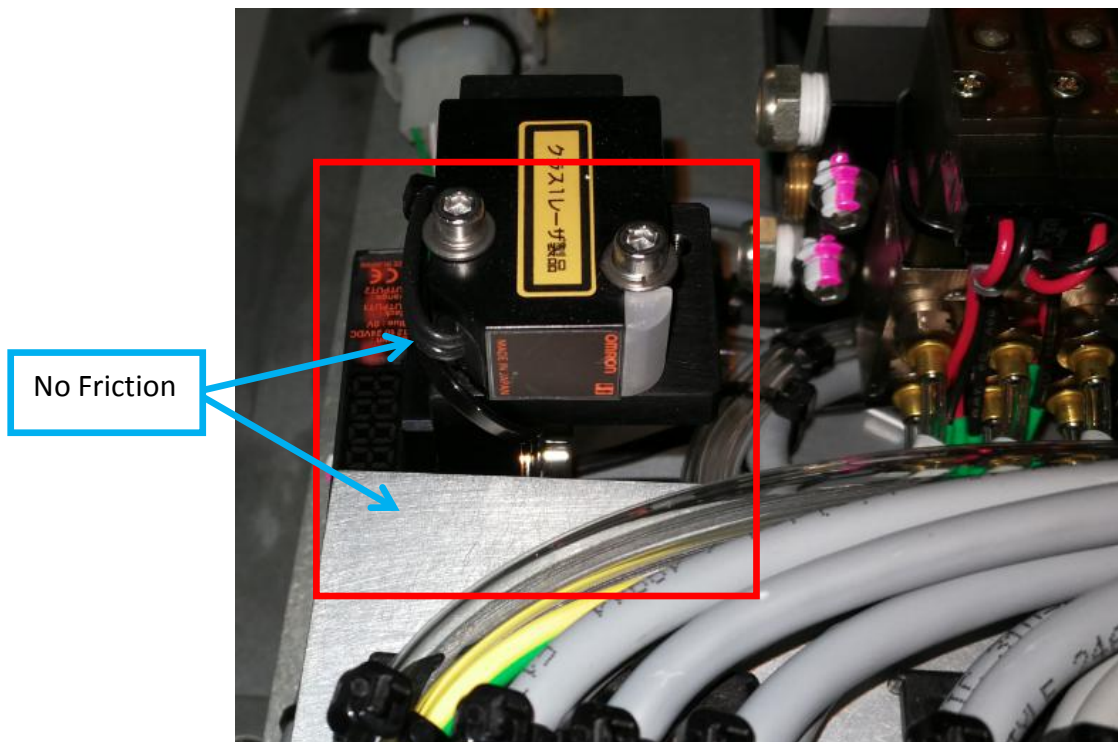

Figure 9
11. Manually move X axis stage and visual check Sensor Head Cable where not contain friction with GUARD, E-CHAIN (P/N, 4XAXY-075) while stage moving. May refer to Figure 9 & 10